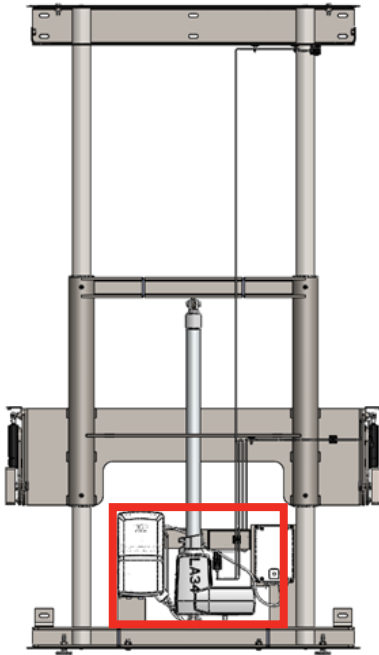
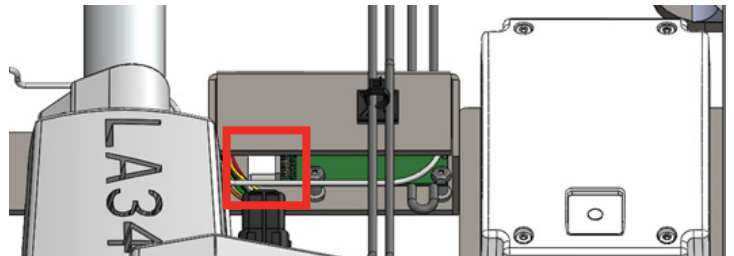

Figure 1 Location of PCB Loom and Connectors
Figure 2 Location of PCB Loom.
- A: Check PCB Connection to loom near the bottom on the tower assembly, location shown in Figure 1. Ensure that the white PCB loom is pressed up against PCB, location shown in Figure 2.